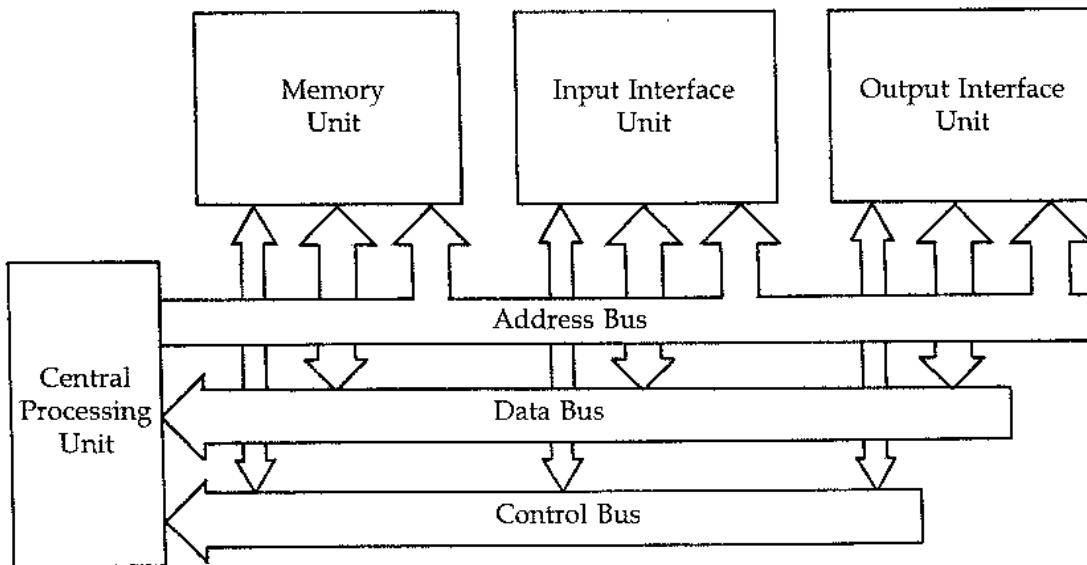

Figure Q1
1. Figure Q1 illustrates the basic architecture of a microcontroller typical of that found in a mechatronic system.